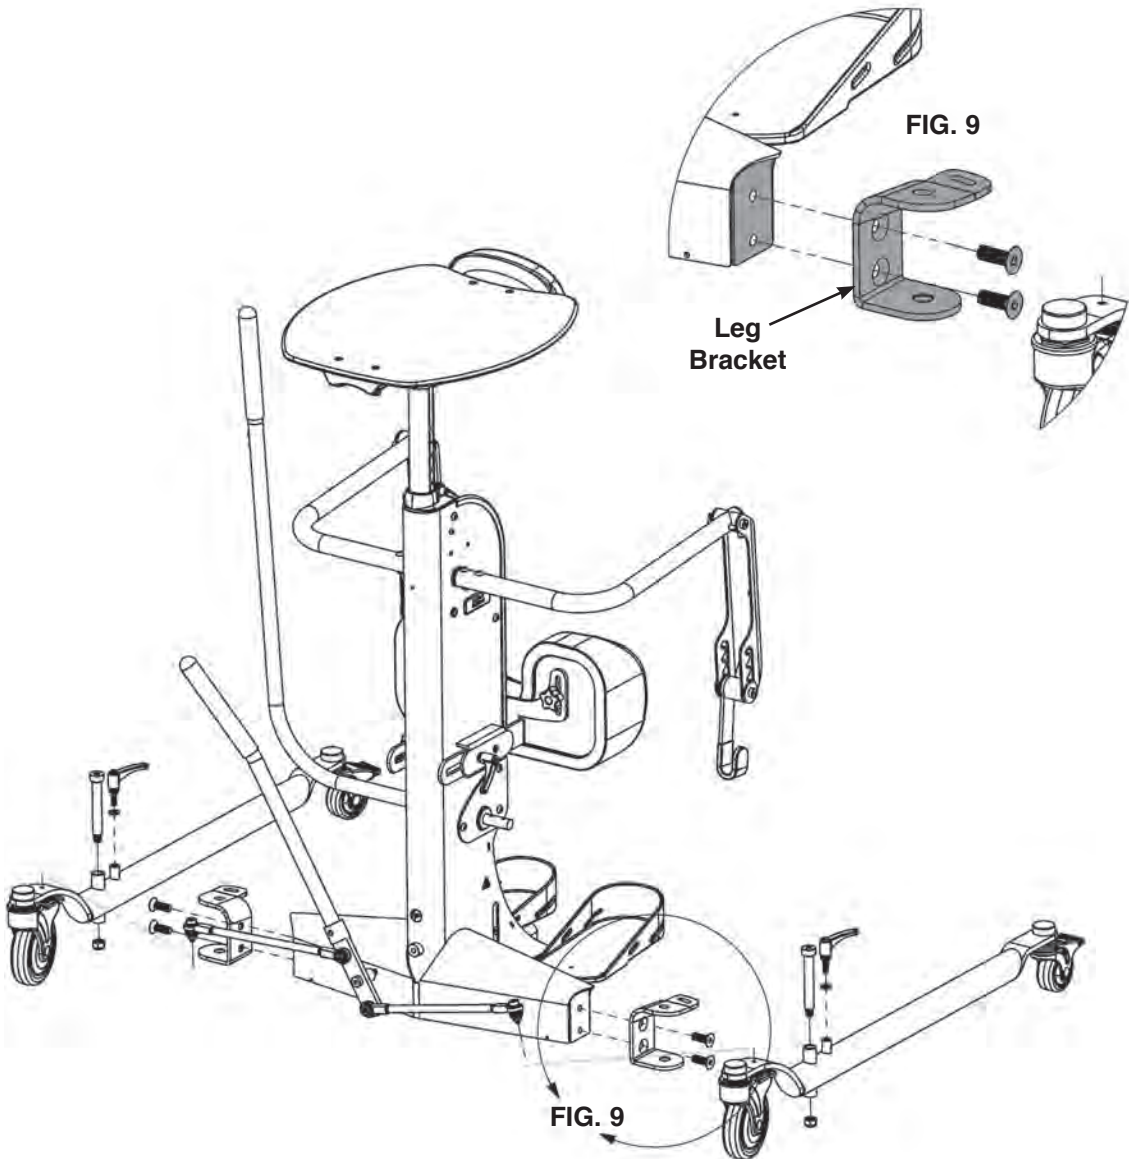

**FIG.8**
**FIG. 8-** For standard knee pads, remove the three bolts from the knee pad, making sure the plastic insert stays in place. Place the knee pad onto the bracket and insert top two bolts before inserting the middle bolt. Tighten securely.